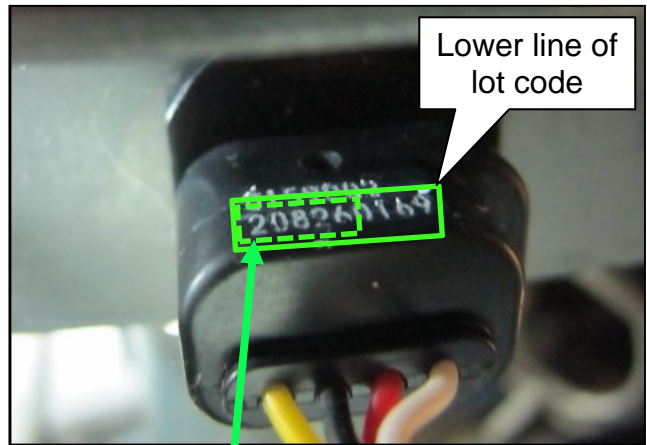

Figure 12
23. Write down the first five (5) characters of the lower line of the lot code on the repair order in the Technician Comments section (Figure 12).